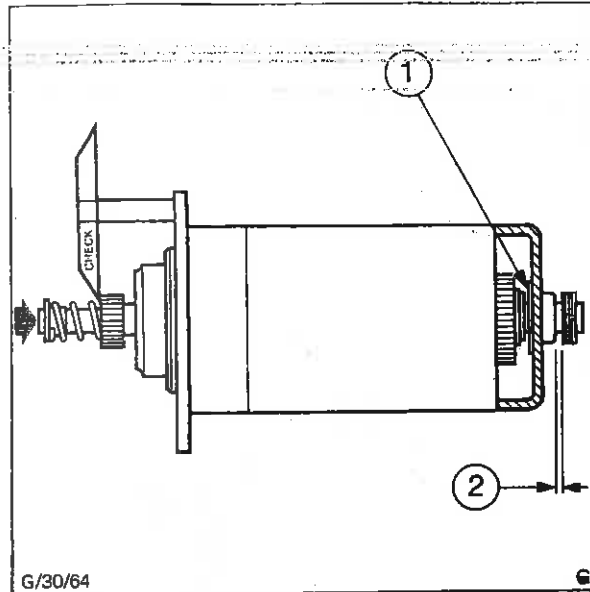

Fig. 24 - Adjustment of Armature End Float
- (b) When this has been done, push the armature towards the commutator end of the machine as shown in Fig. 24 and gauge measure gap, which should now be within the limits $2,03 + 0,50 - 0,00$ mm ($0,079 + 0,02 - 0,00$ in) using Tool No. 6244-4 go/no-go gauge.